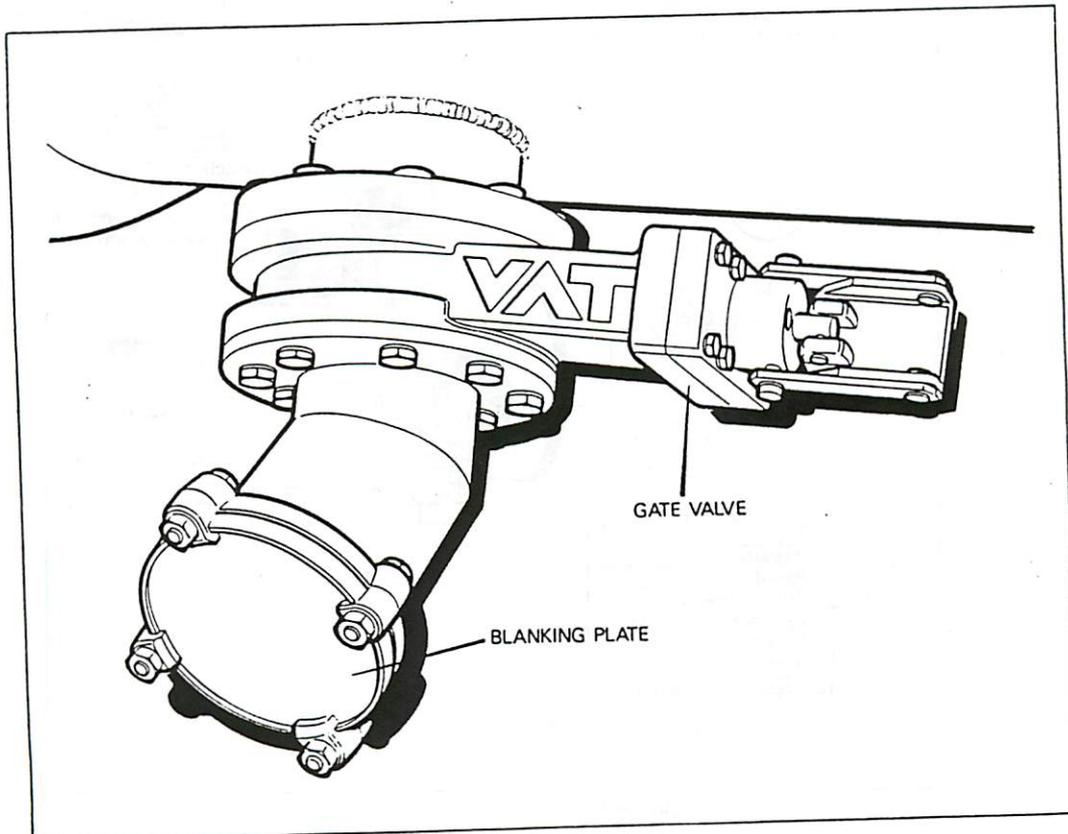

Figure 4.11
- 13 When the liquid helium begins to collect in the reservoir, close the vacuum gate valve, remove the turbo molecular pump and fit a blanking plate (see Fig. 4.11).